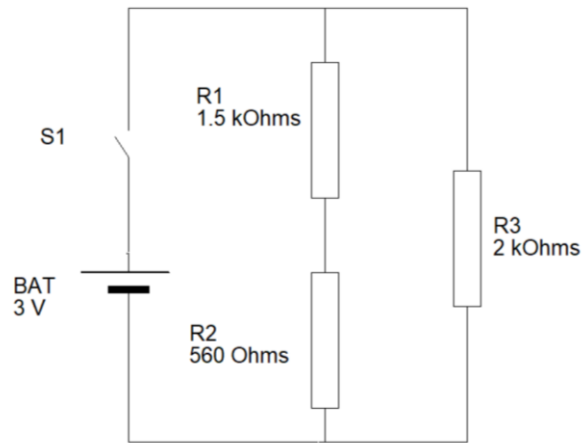

Figure 1: Series-parallel circuit
- c) Figure 1 illustrates a series-parallel circuit.
From this circuit shown in Figure 1, identify **ONE** series and **ONE** parallel circuit combination by referring to the resistors R1, R2 and R3. Write your answers in the space provided below.